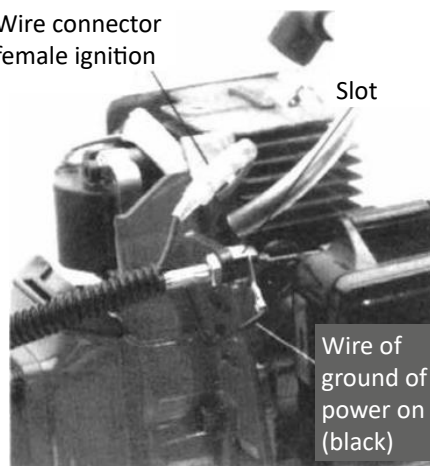

Figure 8
3. Turn the cable adjustment nuts sufficiently so that the throttle cable fits into the slot on the fan cover. Make sure that the ignition ground wire is positioned on the rear side of the slot. Then connect the male connector with red ignition wire to the female connector, also with a red wire, attached to the engine. See figure 8.